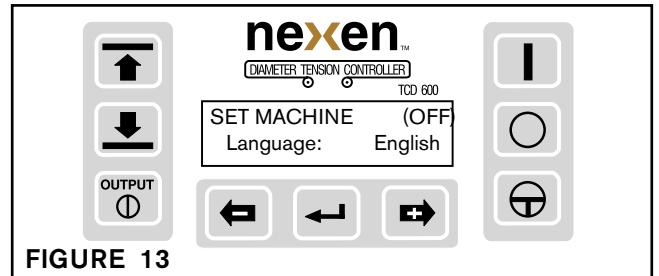

FIGURE 13
2. The lower display line will advance to Language (See Figure 13). Press the plus or minus button to select the desired language, then press Enter.